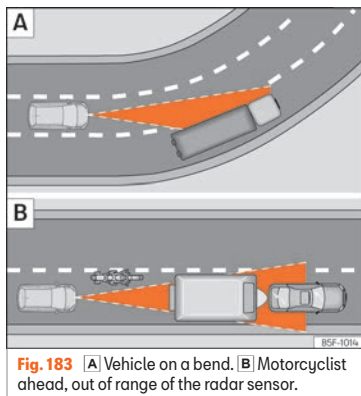

Fig. 183 [A] Vehicle on a bend. [B] Motorcyclist ahead, out of range of the radar sensor.
The ACC may not detect the vehicle in front on a curve, or may regulate the distance from vehicles in other lanes »» Fig. 183 [A].
- Vehicles that are not aligned while driving or that are outside the sensor's detection area, such as motorcycles »» Fig. 183 [B]